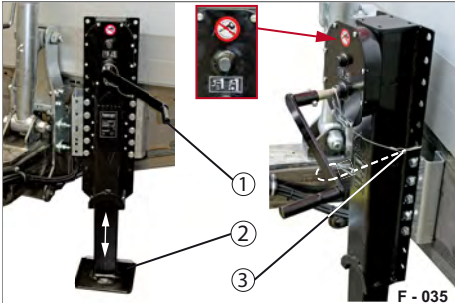

Fig. 46 Support foot extended
- ▶ Release the securing cable (Fig. 46/3) from the hand crank (Fig. 46/1).
- ▶ Crank the support foot (Fig. 46/2) down with the hand crank - in high gear - until just before ground contact.
- ▶ Crank the support foot (Fig. 46/2) fully down to the ground.